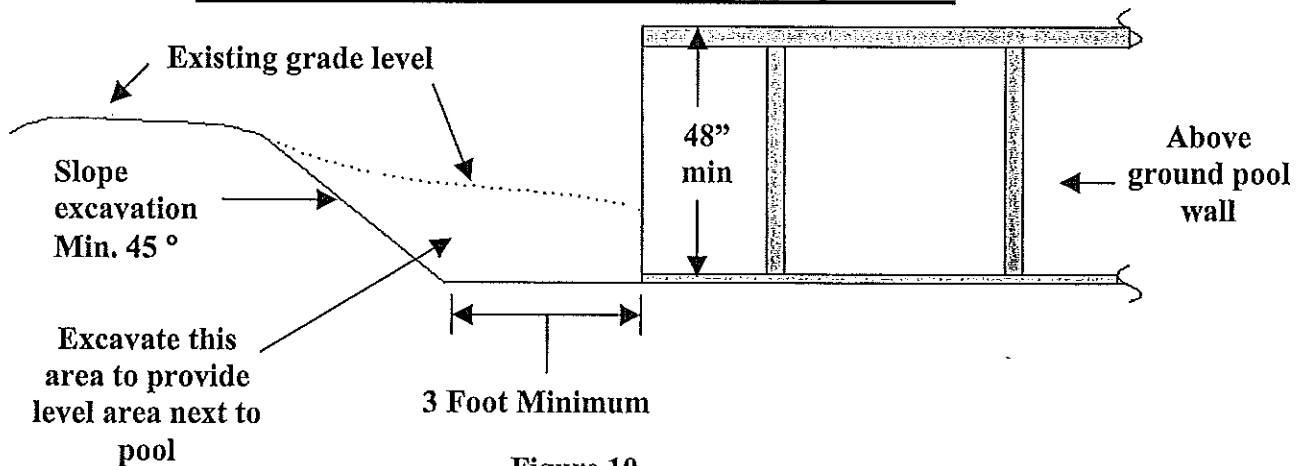

Figure 10
10. Where an above-ground pool on a sloped site that will make a portion of the top of the pool structure to be less than 48" to grade, a minimum of 3-foot level surface around the portion of the pool structure that is less than 48" to grade should be provided. The level surface should be measured away from the pool wall to the excavation edge and should be tapered away from the pool at a minimum of 45-degree angle for a distance of one half the level surface. (Figure 10)